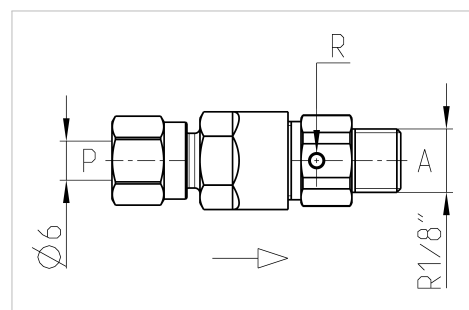

Figure 1: EVE-Ø6-1/8"
- EVE-Ø6-1/8" (Figure 1) for direct screwing into a 1/8" thread (e.g. TA4 inlet VA/VZ) for Ø6mm connection line.
-  Check the completeness of the scope of supply (acc. Figure 1 + 2) and that there is no damage. If damage can be seen, the product must be complained immediately.